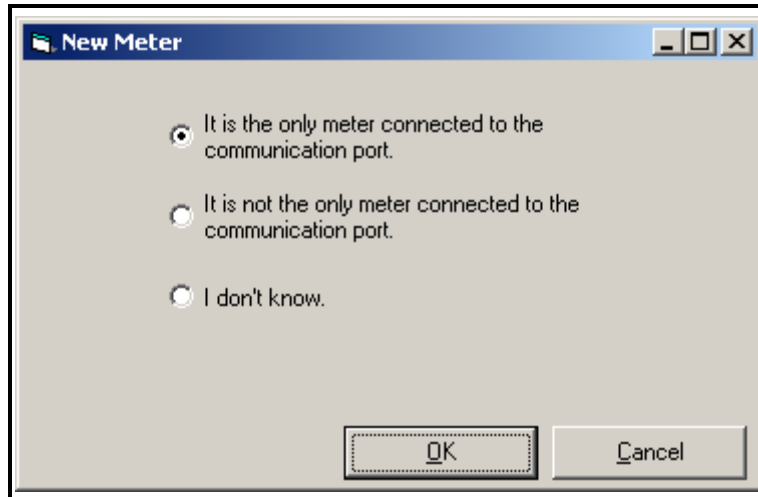

Figure 6: The Only Meter Dialog Box
5. After responding to the previous dialog box, the dialog box shown in Figure 6 below appears. In this instance, the PT878 communicates via an IR232 dongle connected to the comport. Therefore, select the "It is the only meter connected to the communication port" radio button and then click on the [OK] option button.